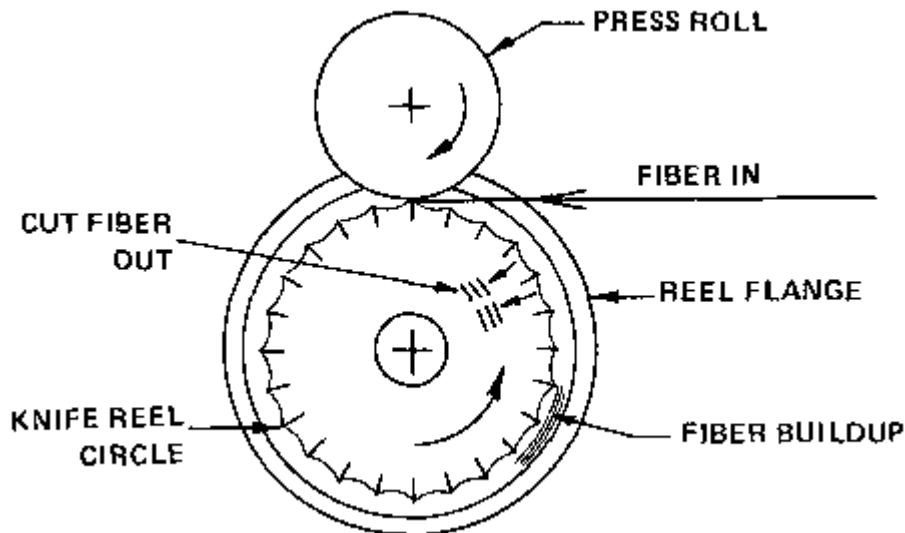

Figure 15
4. **Reel and roller:** See Figure 15. In this method, fiber is wrapped on a reel of knives, under tension, between two flanges. It is discouraged from building to a larger diameter by a rolling press wheel, thus forcing the fiber to be cut and pushed between the converging knives to escape. The Lummus cutter is the only machine of this type. First marketed in the late 1960's, it is now considered the standard of the long staple industry all over the world. It is a slow squeeze (boa constrictor) type cutter with many advantages, one being that nothing touches the edge of the knife except fiber. Some disadvantages are roping of output on long staple; blocking and stuffing on short staple; and because of this feature, inability to satisfactorily cut very short, wet lay staple.